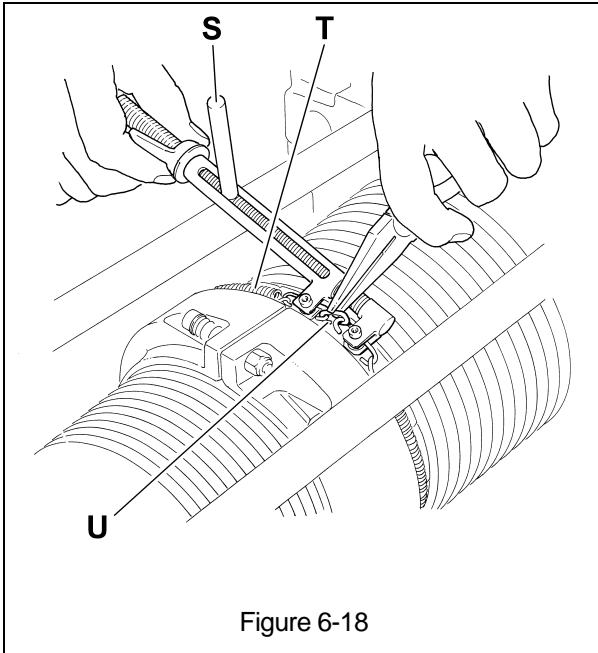

Figure 6-18
- 12) Remove the Wire Clamping Spring (T) using the Wire Rope Guide Clamping Tool (S) and pliers to remove the Clip (U) (see Figure 6-18).